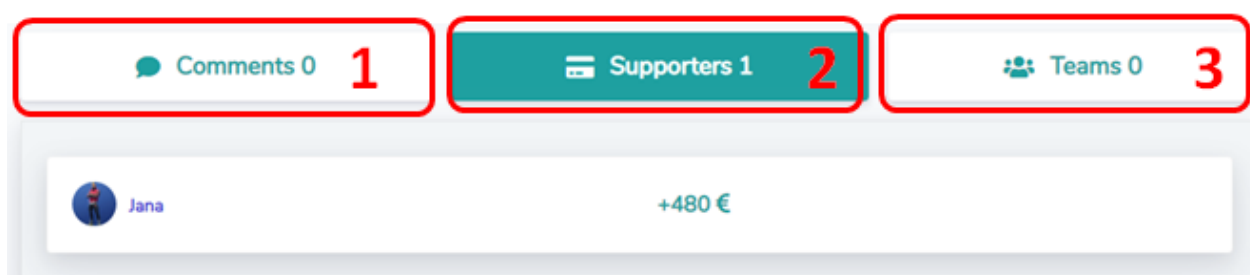

Fig. 12 Campaign’s support options 2
Below the campaign information (Fig. 12) it is possible to send public comment (1) visible to everyone and private visible only by the author of the campaign. After clicking the tab “Supporters” (2) a list of people supporting the campaign along with the amount they sent can be seen. By clicking the tab “Teams” (3) campaign author can add a team member consisting of platform users.